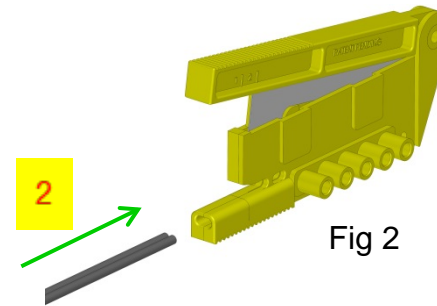

Fig 2
2. If using a duplex cable, it can be split as shown in Figure 2. Insert cable into slot and push down lever, (Figure 2 & 3 ) remove and separate the zipcord approximately 2”.